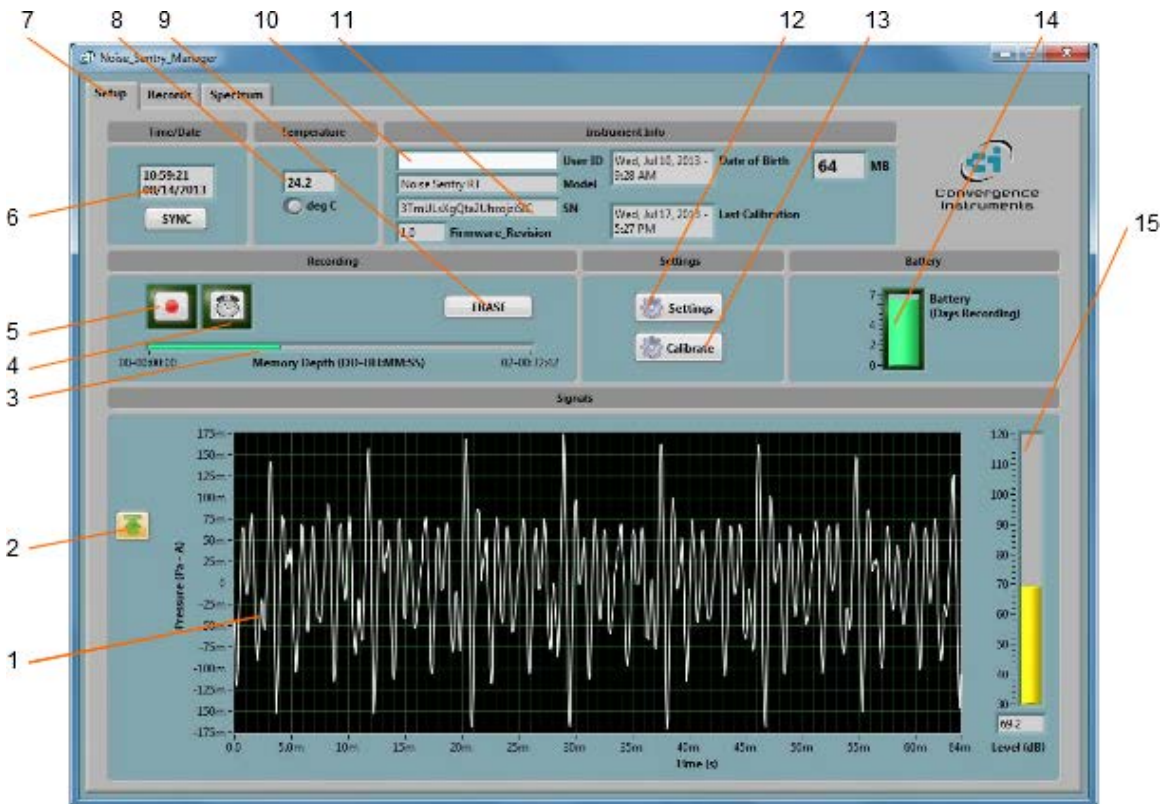

Figure 4 Setup Tab
2. Go into *Start\All Programs\Noise_Sentry_RT_Management* and run *Noise_Sentry_RT_Manager.exe*. The front-panel described in Figure 4 appears, and the application tries to connect to the instrument. If it fails to find the instrument it indicates *No Device Found*. If this is the case see section Troubleshooting
4. The front-panel described in Figure 4 appears, and the application tries to connect to the instrument. If it fails to find the instrument it indicates *No Device Found*. If this is the case see section Troubleshooting
- **The Setup Tab:** Is used to setup the instrument and monitor real-time measurements (see Figure 4).
The setup tab is seen in Figure 4. It is divided into seven fields.